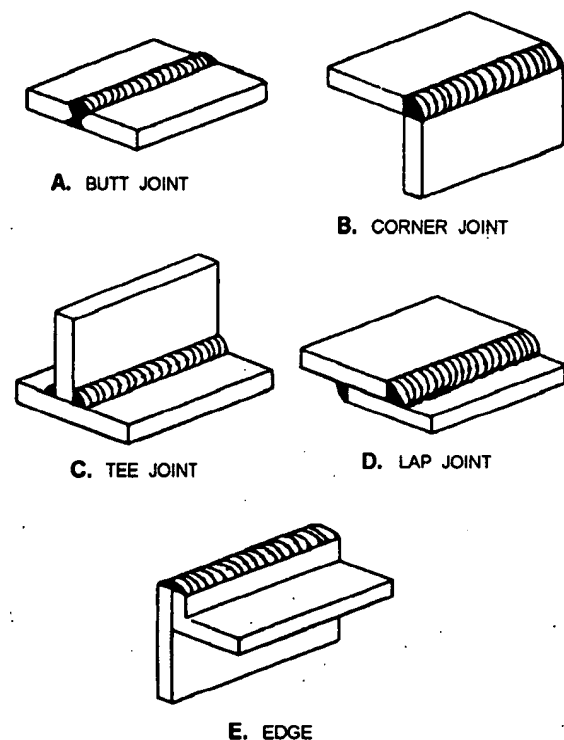

Figure 3-6.—Basic weld joints.
The **weld joint** is where two or more metal parts are joined by welding. The five basic types of weld joints are the butt, corner, tee, lap, and edge, as shown in figure 3-6.
A **butt** joint is used to join two members aligned in the same plane (fig. 3-6, view A). This joint is frequently used in plate, sheet metal, and pipe work. A joint of this type may be either square or grooved. Some of the variations of this joint are discussed later in this chapter.
**Corner** and **tee** joints are used to join two members located at right angles to each other (fig. 3-6, views B and C). In cross section, the corner joint forms an L-shape, and the tee joint has the shape of the letter *T*. Various joint designs of both types have uses in many types of metal structures.
A **lap** joint, as the name implies, is made by lapping one piece of metal over another (fig. 3-6, view D). This is one of the strongest types of joints available; however, for maximum joint efficiency, you should overlap the metals a minimum of three times the thickness of the thinnest member you are joining. Lap joints are commonly used with torch brazing and spot welding applications.
An **edge** joint is used to join the edges of two or more members lying in the same plane. In most cases, one of the members is flanged, as shown in figure 3-6, view E. While this type of joint has some applications in platework, it is more frequently used in sheet metal work. An edge joint should only be used for joining metals 1/4 inch or less in thickness that are not subjected to heavy loads.